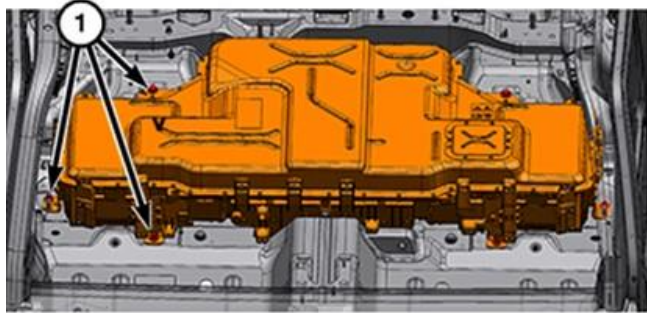

**Figure 37 – HV Battery Bolts**
40. Remove the bolts (1) securing the HV battery to the vehicle (Figure 37).
28. Install the HV battery pack bolts (1) and tighten to (Figure 37):